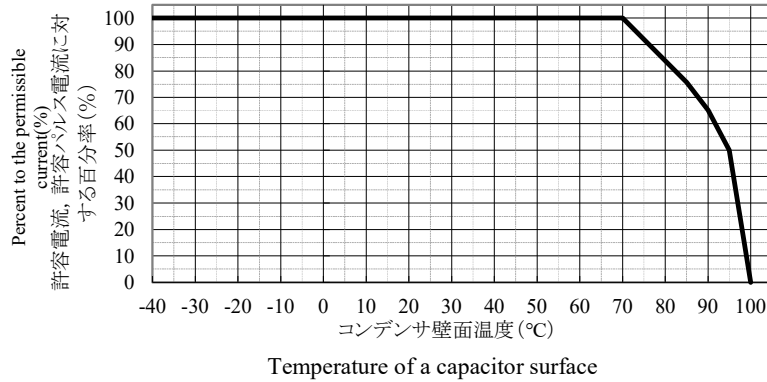

Fig.3 PERMISSIBLE TEMPERATURE RISE DERATING VS. SURFACE TEMPERATURE OF A CAPACITOR
- * When used beyond 70°C at temperature of capacitor surface, reduce the permissible current rated (rms:Fig.3 and pulse:Table.1) as shown below.
- * コンデンサの壁面温度が70°Cを超える場合は、下図に従い図3の許容電流、表1の許容パルス電流値を軽減しご使用下さい。
*Make sure own temperature rise is within the permissible value shown in Fig.3 when the temperature of a capacitor rises by continuous pulse current.